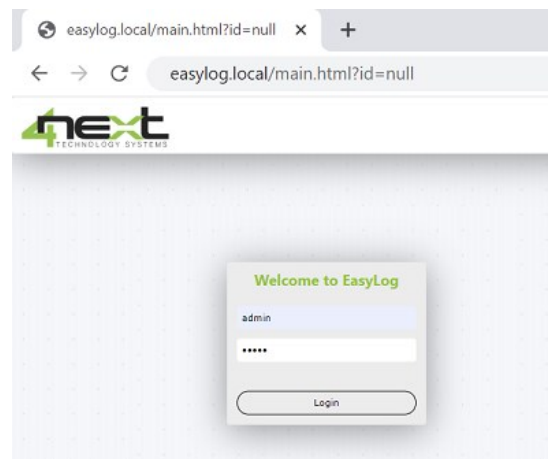

Fig. 7 Login
The first screen (Fig. 7) is the username and password authentication page. The default values are:
Username: admin **Password:** admin (Fig. 7)
13. Select "Network" from the Configurations menu to set the EasyLogXL network parameters in accordance with those of your Ethernet network. For example, if in the original screenshot of Fig.7 the IP address was 192.168.10.1, set EasyLogXL to 192.168.10.100 (example in Fig. 15)